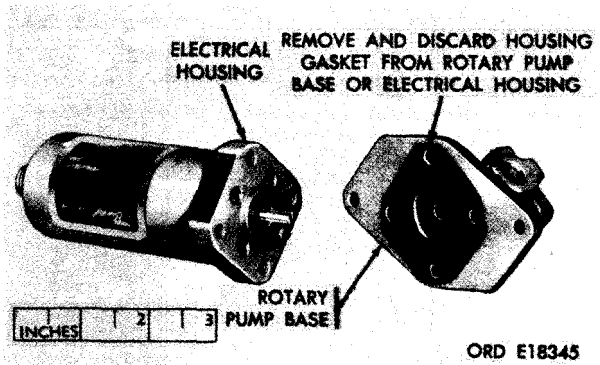

FIGURE 418. REMOVING OR INSTALLING HOUSING GASKET.
- (4) Refer to figure 418 and remove and discard housing gasket.